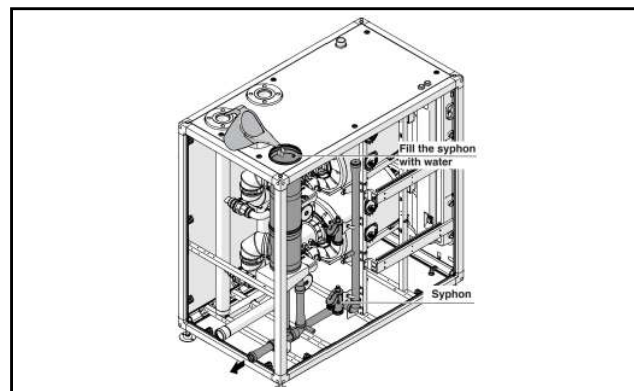

Fig.2 FILLING SYPHON AND CONDENSATE TRAPS
1. Fill all condensate traps and syphon (Fig.2).